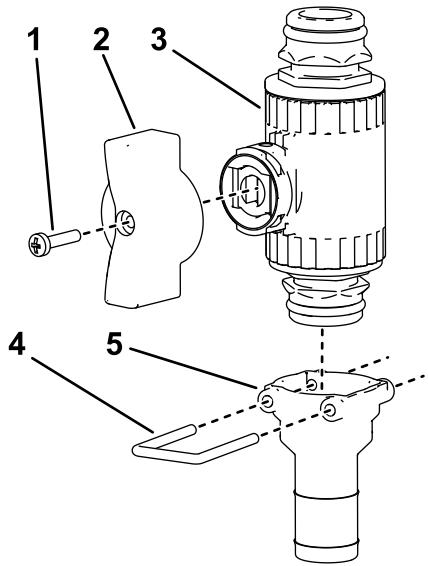

Figure 36
5. Assemble the green wing handle to a straight control valve Figure 36.